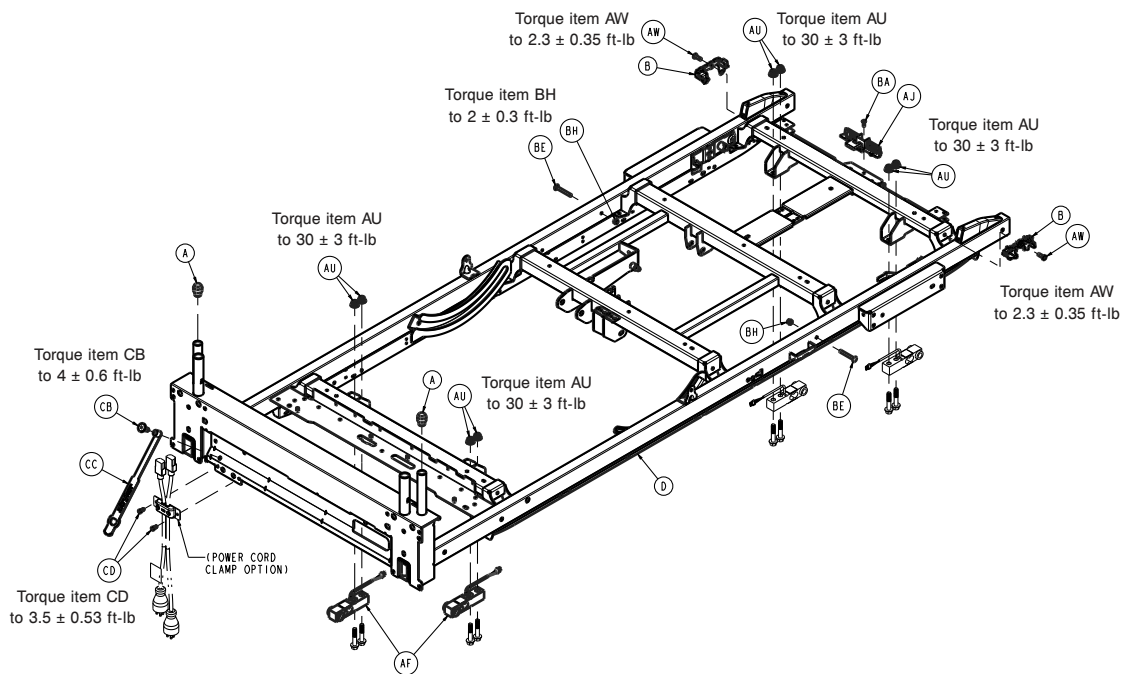

Figure 46 – Replacing the load cell
7. Unplug the load cell (AF) (Figure 46).